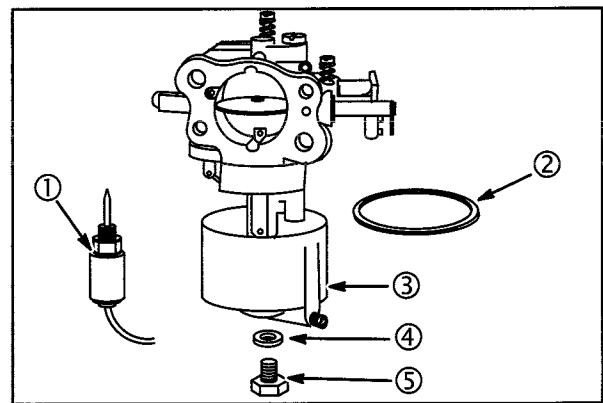

Fig. 23
1. Remove anti-afterfire solenoid (1) or bowl screw (5) and washer (4), Fig. 23.
2. Remove float bowl (3). Discard bowl gasket (2).